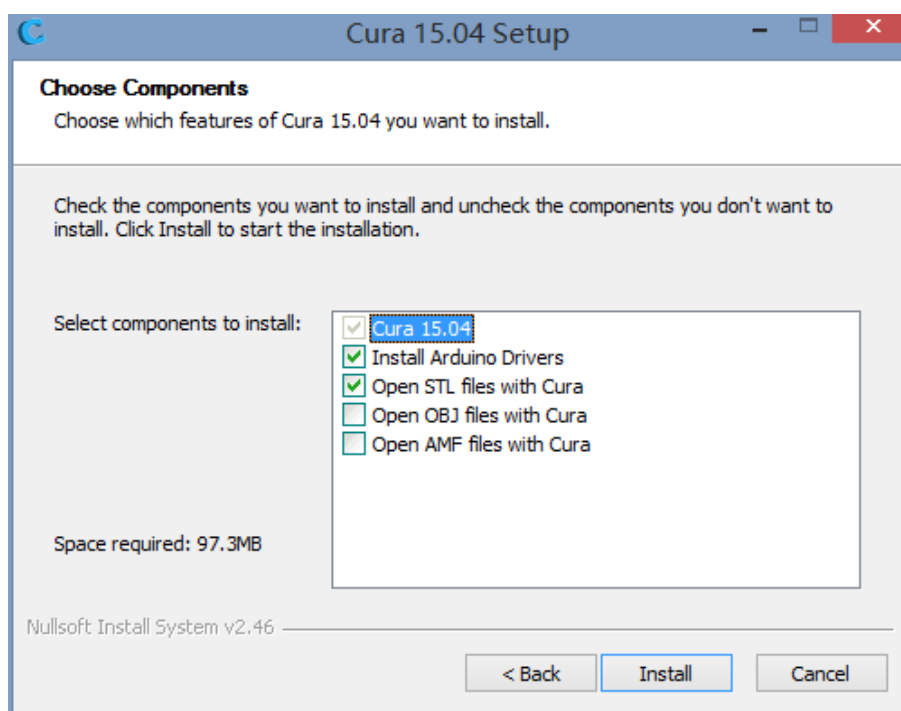

Fig. 39
Step 1. Installation of the slicing software. Cura is used for example. Double click 'Cura_15.04' to proceed with the installation. When the dialogue appears you may tick all the boxes as shown in Fig. 39.